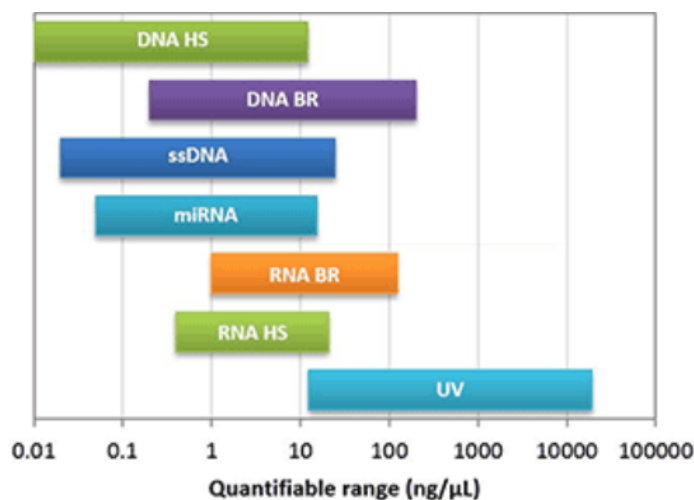

Figure 1: Comparison of sample concentration ranges for the Qubit Assays
- Choose a kit based on the type of extract is being quantified and the Quantifiable Range of the kits presented in **Figure 1**.